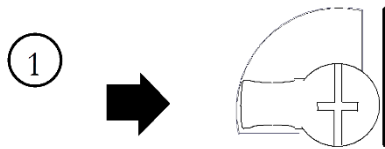

Figure 15: Latch shown in Unlocked Position
- 1) The power supply module installs directly on top of the ENIU. The latch on the power supply must be in the unlocked position as shown in Figure 15.